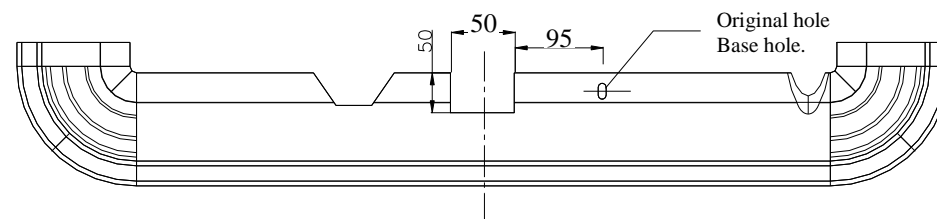

Fig. 2. Bumper cut out
5. Reassemble the bumper after cut out his fragment in lower part (as shown in the fig. 2).
6. Fix tow-ball (pos. 2) and socket plate (pos. 3) using bolts M12x75mm (pos. 6) from accessories.